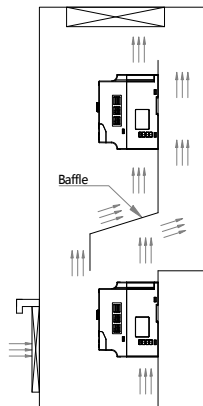

Figure 2-2 Installation Diagram of Multiple Inverters
- (3) When multiple inverters are installed up and down, the baffle applied in the middle is shown in Figure 2-2.